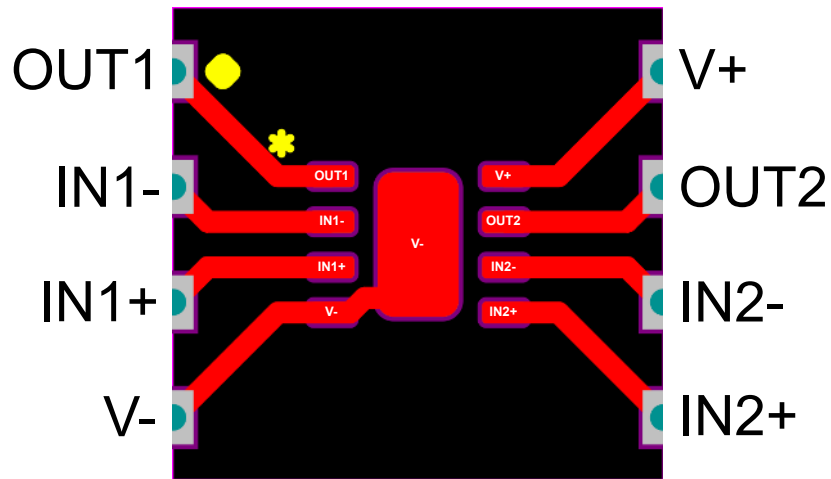
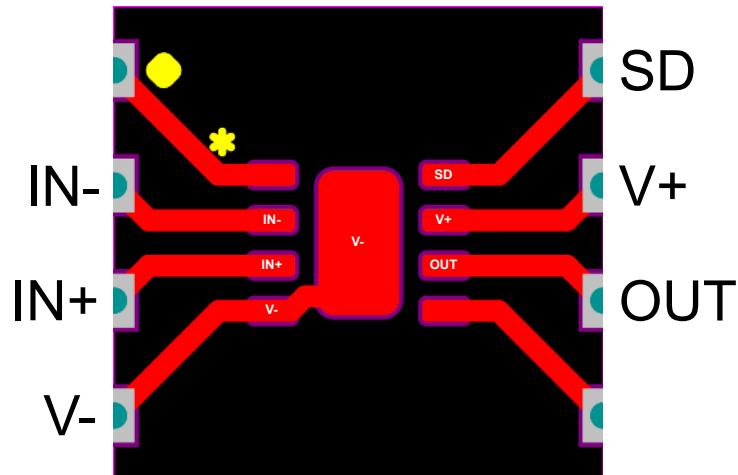

Figure 3-3. Dual SOIC to WSON (DSG)
Figure 3-4. Single SOIC to WSON (DSG)
The WSON (DSG) board can be used to adapt a dual-channel WSON (DSG) device to dual-channel SOIC footprint and a single-channel WSON (DSG) device to single-channel SOIC footprint, as shown in Figure 3-3 and Figure 3-4 respectively. For single-channel WSON (DSG) devices, both the shutdown (SD) and non-shutdown variants are supported.